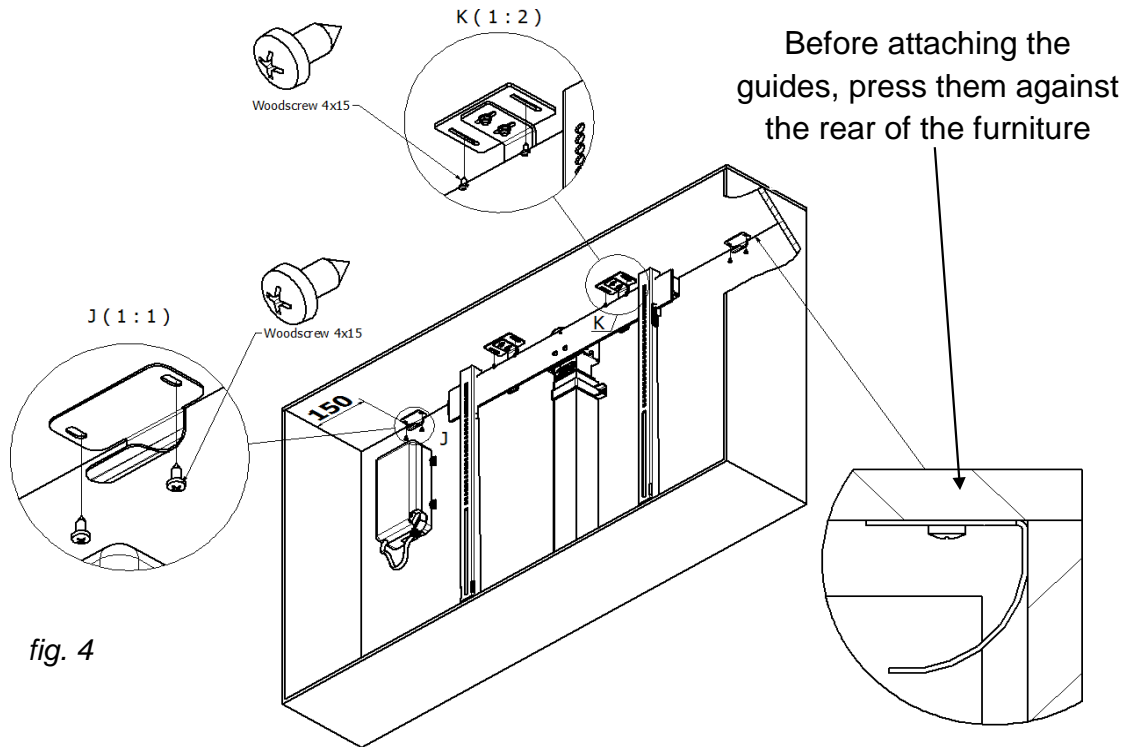

fig. 4
4. Mount the lid of the furniture to the lift: firstly position the lid parallel to the furniture. Fasten the lid to the lift beam using the previously installed lid brackets. After attaching the lid, tighten the lid guides. Push guides to the back panel. Make sure not to leave a gap and then tighten with two screws. The guides should be attached approx. 150 mm from the edge of the lid (fig. 4).